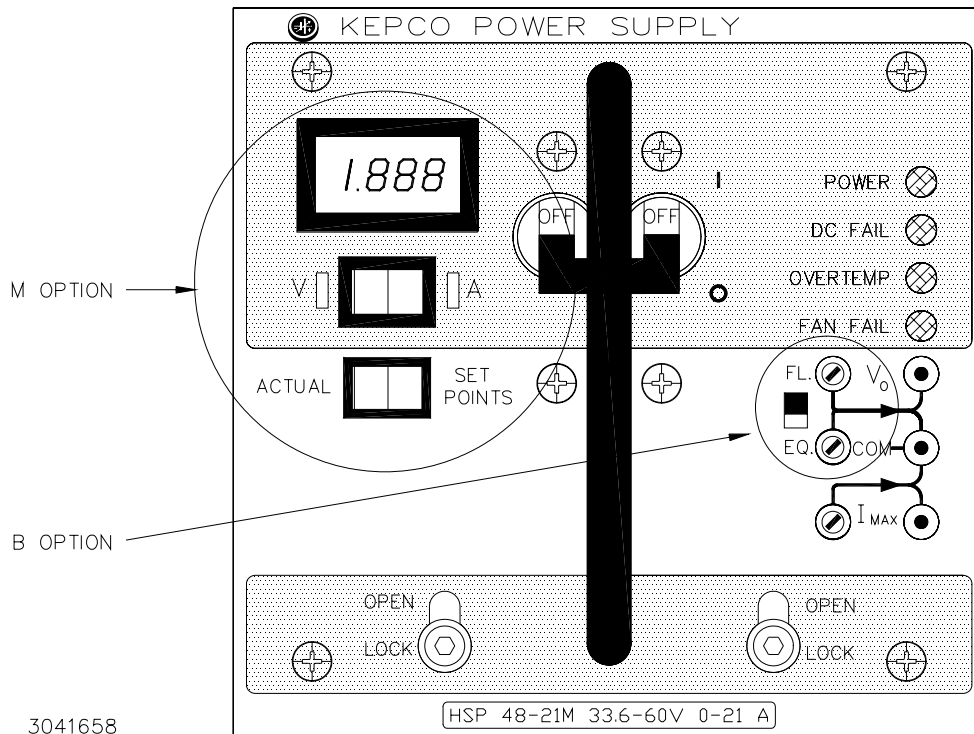

FIGURE 3-7. HSP M (METER) OPTION AND B (BATTERY CHARGER) OPTION, FRONT PANEL
HSP series power supplies are available with a meter option ('M' suffix) which incorporates a 3½ digit LED meter display on the front panel. The meter provides both voltmeter and ammeter functions. The V-A rocker switch directly below the meter (Figure 3-7) selects either output voltage (V) or module current (A) as the normally-displayed parameter. The associated LED, either V or A, lights to show the selected switch position. When depressed, the ACTUAL/SETPOINTS momentary-contact switch located below the V-A selector switch causes the meter to display the programmed value of output voltage or current limit, as selected by the V-A switch. The
When the Float-Equalize switch is set to FL (see Figure 3-7), the Float potentiometer adjusts the output voltage; when set to EQ, the Equalize potentiometer adjusts the output voltage. The FL-EQ position also determines which voltage is available at test point V_o. CAUTION: Adjusting the non-selected potentiometer (e.g., FL potentiometer with switch set to EQ) can have adverse effects, because an unknown output voltage will be applied to the load when the switch position is changed. The fault detector window is altered to accommodate the normal range of battery voltage from fully discharged to peak equalize charge as shown in Table 3-3.: